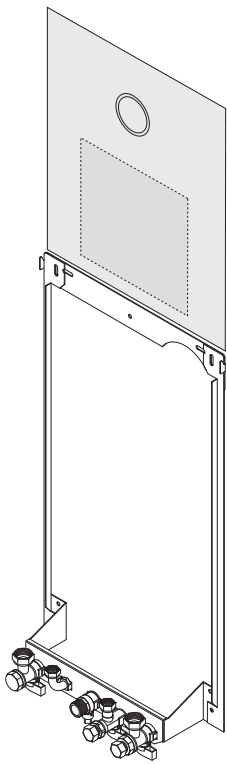

Fig. 3
2. Align the 'GasSaver' template with the wall plate (Fig. 3) and mark the positions of the flue and upper fixings.